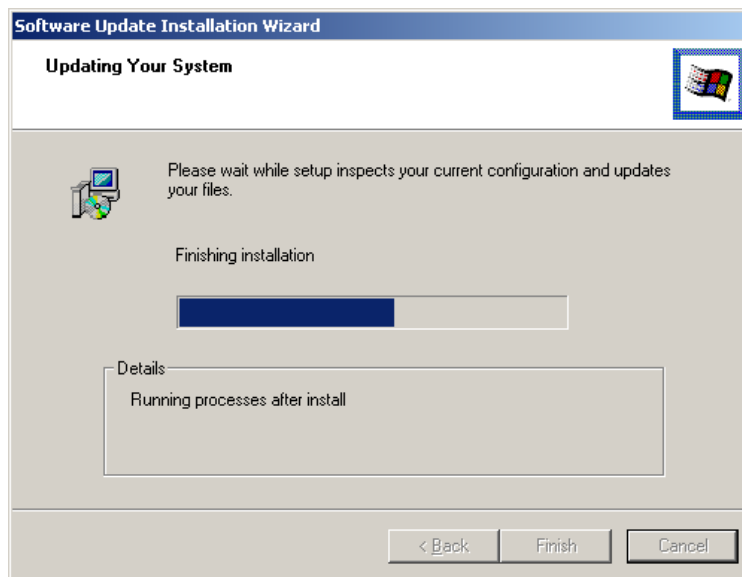

Figure 6-22: Installation Wizard Updates the System
Step 9: The Installation Wizard updates the system as shown in **Figure 6-22**.